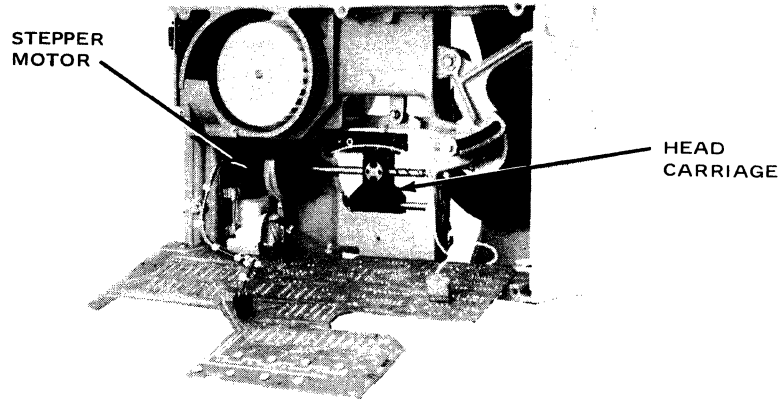

Figure 7-22. Stepper Motor and Head Carriage
Stylus Replacement (Figure 7-22)
- d. Remove retaining bar and slide guide rod out (Figure 7-22).
- e. Remove holding screw and lift out stepper motor clamp (Figure 7-22).